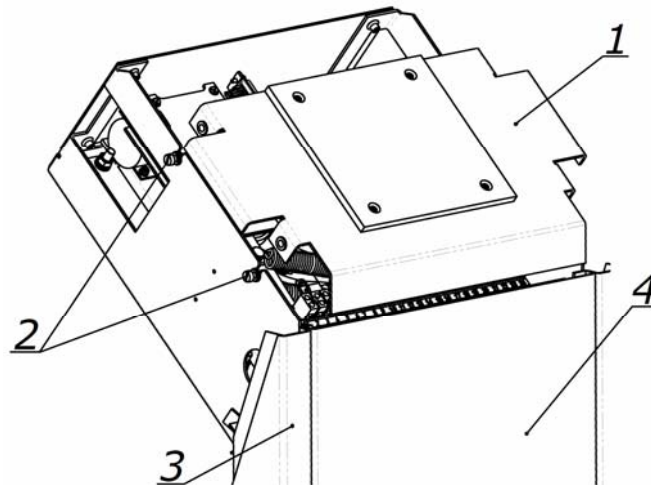

Figure 11. Turnstile with cover removed
6. Remove the cover (2) in order given in Chapter 6.
7. Remove the reinforcement plate (see Fig. 11). To do so first loosen 4 fixing screws of the plate with the flat slot screwdriver.